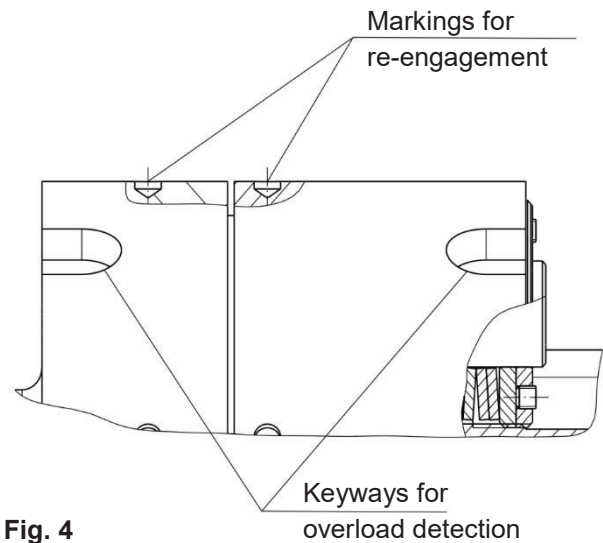

Fig. 4
The overload - i.e. the relative movement between the hub (1) and the pressure flange (5) - can be detected using the keyways of the two components (each 2 x 180° on the circumference, see Fig. 4 on page 9) which are aligned in operating condition, e. g. by means of speed monitors or optoelectronic sensors.
Re-engagement (Figs. 4 and 5)
The marking bores on the outer diameters of the hub (1) and the pressure flange (5) must align with each other (Fig. 4).